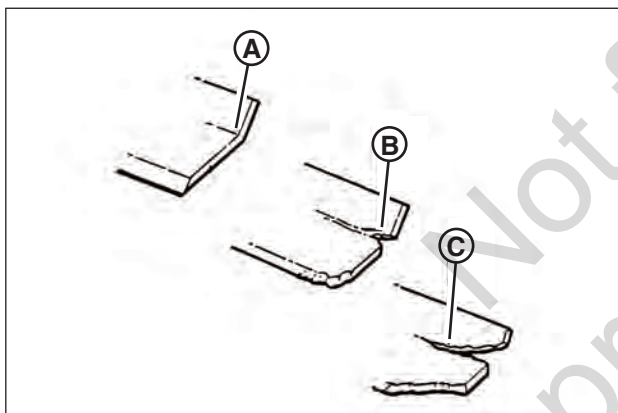

Figure 18: Standard blade wear limits
1. Inspect the blade (**Figure 18**) frequently for signs of excessive wear or damage: